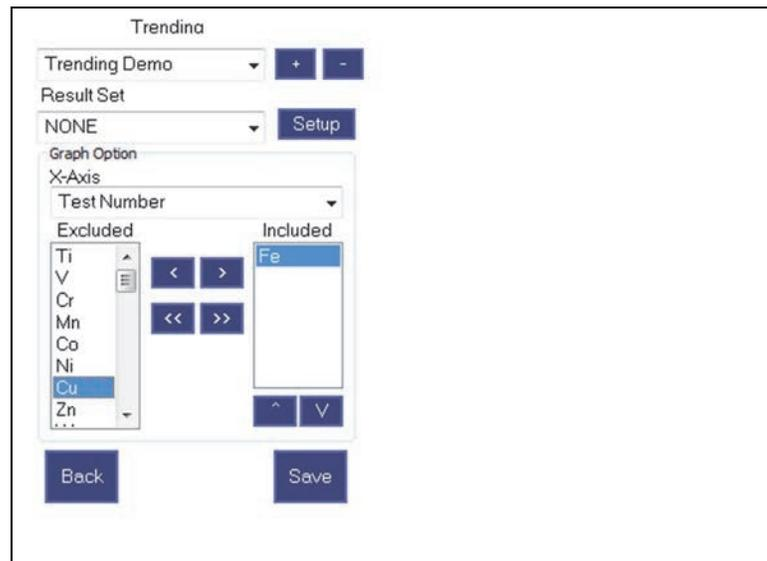
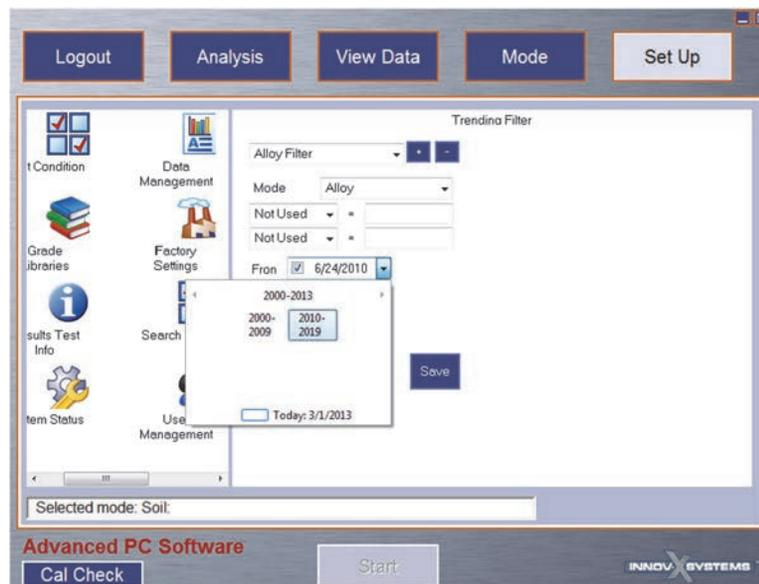

Figure 1-55 The Trending pane with the template defined
Figure 1-56 Date selection in the Trending Filter pane
3. Type a template name, and then click **OK** to save and display the new template (see Figure 1-55 on page 41).
- To add a **Result Set** filter, click **Setup** (refer to Figure 1-55 on page 41) to display the **Trending Filter** pane (see Figure 1-56 on page 42).
You can quickly select a year by clicking on the year (at the top of the calendar). Continue clicking to broaden the range of months, and then years. Select a year, then a month, and finally, a day (see Figure 1-56 on page 42).